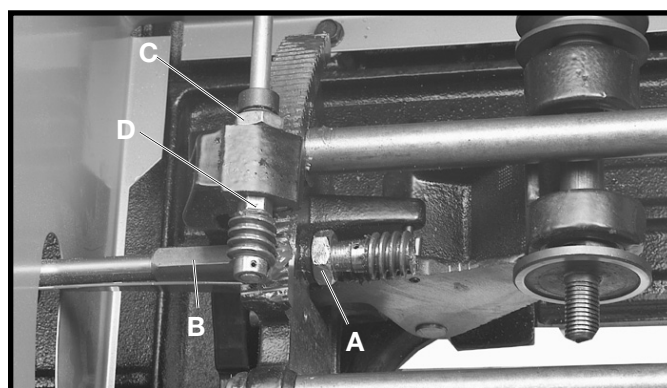

Fig. 53
3. **Adjusting blade raising mechanism** - Loosen locknut (A) Fig. 53, and turn eccentric sleeve (B) until all play is removed in mechanism, then tighten locknut (A).
4. **Adjusting blade tilting mechanism** - Loosen locknut (C) Fig. 53, and turn eccentric (D) until all play is removed in mechanism, then tighten locknut (C).